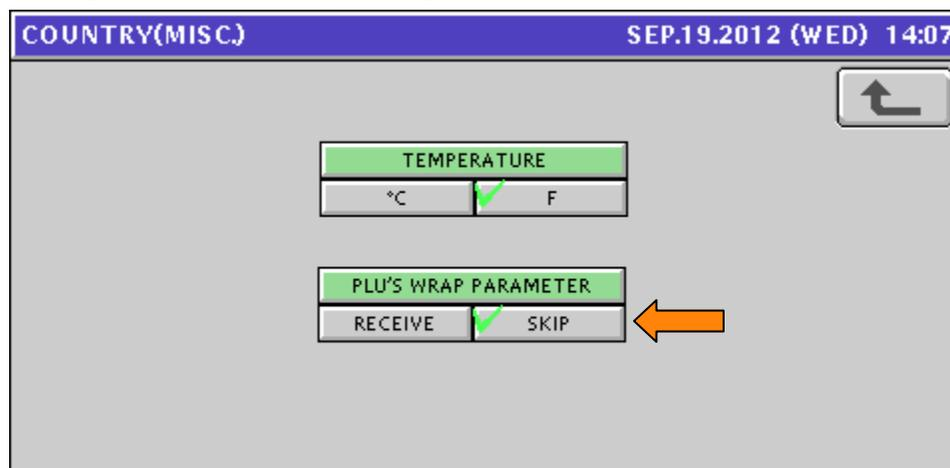

Figure 7.6. PLU Wrap Parameters Download
- Set **PLU'S WRAP PARAMETER** as needed. See Figure 7.6.